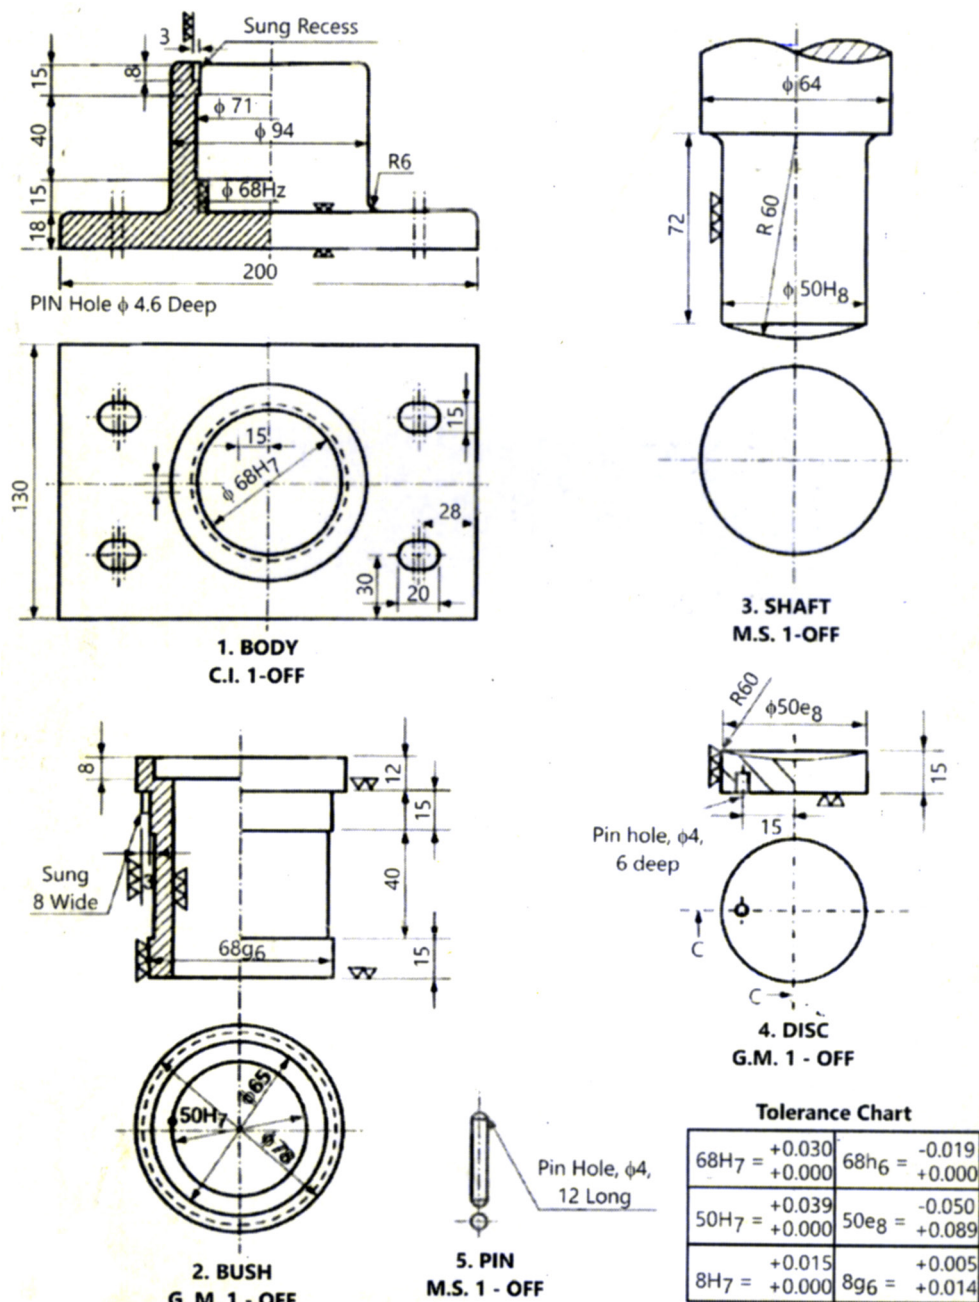

Fig. No. 6: Details of foot step bearing
- a) Figure No. 6 shows the details of 'FOOT STEP BEARING'.